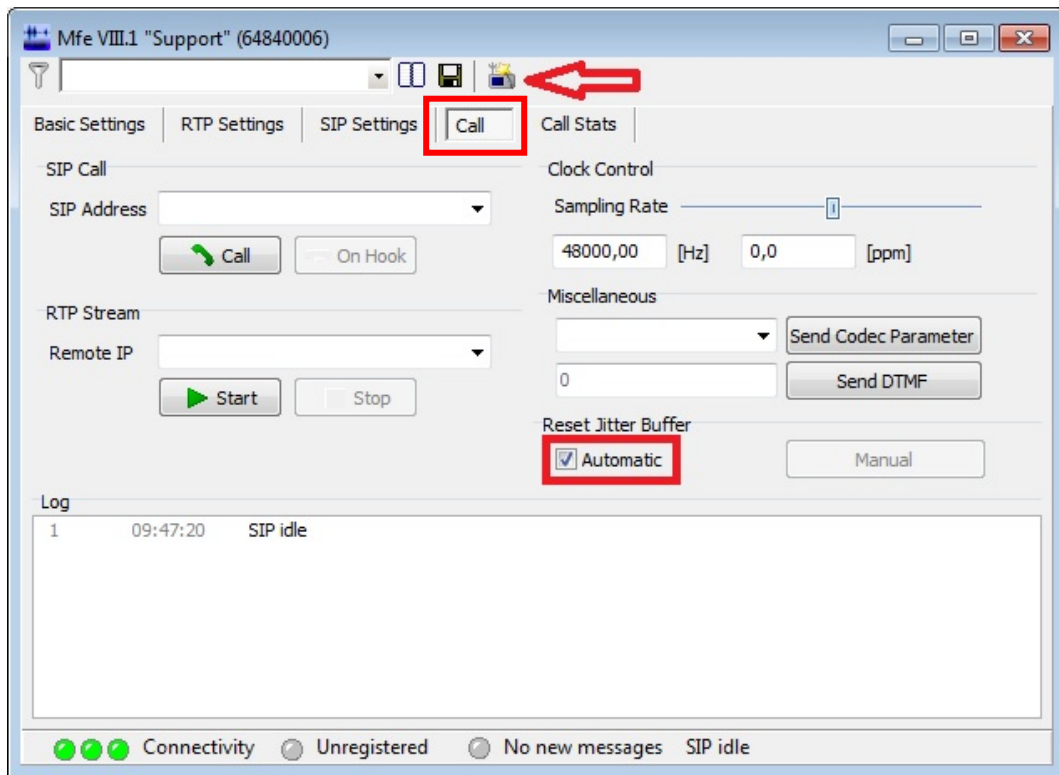

Figure 5: Mandatory settings for MFE VIII.1
1. Select the “Call” tabulator (see Figure 5).
2. Enable the automatic jitter buffer reset function (see Figure 5).
3. Start the radio tester wizard by clicking on the symbol  next to the red arrow in Figure 5. The radio tester wizard prepares the front end for the RTP stream to and from the radio tester.